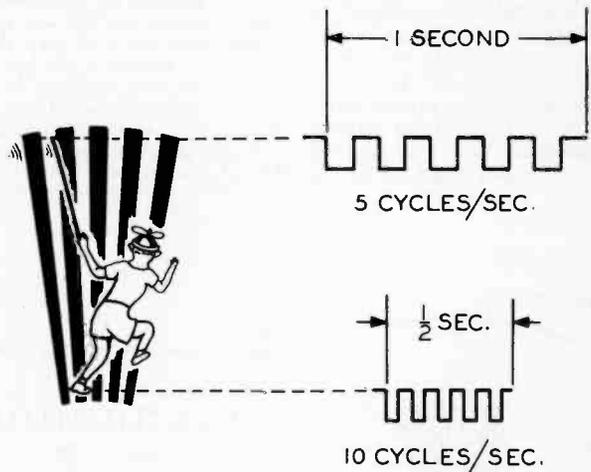
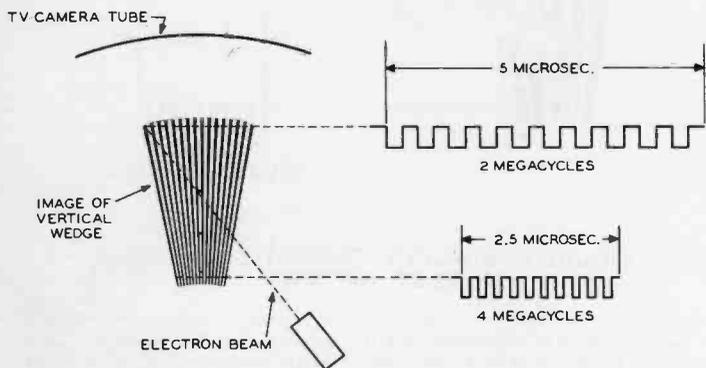

FIGURE 2—ANALOGY TO VERTICAL WEDGE IN TEST PATTERN
FIGURE 3—VERTICAL WEDGE IS USED IN PROVIDING SQUARE-WAVE VIDEO SIGNALS OF A WIDE FREQUENCY RANGE.
Two methods of connections are shown in Figs. 2 and 3, the former being that employed with receivers with a balanced input and the latter with unbalanced-input sets. It goes without saying that in order for the signal to be a maximum at the receiver input, the impedance match between the antenna, the lead, and the input should be as nearly perfect as possible. In Fig. 2 (A), a folded dipole is indicated (this has a 300-ohm impedance) and it is connected to the resistors and switches by a twin lead with the same impedance. In Fig. 3 (A) a half-wave dipole is indicated, this having an impedance of 75 ohms and a coaxial line of the same impedance being employed.
You will note that in Fig. 2 there are two double pole-double throw switches connected in parallel through series resistors to the twin-lead line from the antenna. The number of receivers connected to the antenna determine the value of these series resistors; for two receivers, the value is 150 ohms; for three receivers, 300 ohms; and for four receivers, 450 ohms. It is important to use carbon and not wire-wound resistors, as the latter may unbalance the system. Of course, the dummy load in each case remains 300 ohms, thus matching the input of the set and providing a balance in the event the set is removed from the system.
The equivalent circuits of each of these methods of connection are shown in Figs. 2 and 3 (B). In the former, the two 150-ohm resistors in series with the 300 ohms of either the set input or the dummy load, give two parallel circuits of 600 ohms each. Hence, the impedance of the combination is 300 ohms, providing the proper match for the twin-lead line. In the event that three sets are connected to the same folded dipole, the 150-ohm series resistors are changed to 300 ohms each, making each parallel branch circuit 900 ohms. The total resistance of three 900-ohm circuits in parallel is again 300 ohms, providing the required impedance match for the line.
The same reasoning can be applied to Fig. 3 (B). Here but one resistor is needed in series with the 75-ohm unbalanced input of the receiver to provide the impedance match. The total resistance of each series circuit is 225 ohms and the total resistance of the three parallel circuits is 75 ohms. If four 75-ohm receivers are to be connected to the one dipole, the series resistances are changed from 150 to 225 ohms, the total resistance of each series circuit being 300 ohms. Therefore, the total resistance of four 300-ohm parallel circuits would again be 75 ohms, giving the correct match.
Figures 2 and 3.
Suppose the boy had a V-shaped trellis with 5 pickets, as shown in Figure 2. As he draws the stick across the pickets, the motion at the
In an analogous manner, as shown in Figure 3, the camera tube at the TV transmitter produces an electrical square-wave signal as the electron beam in the camera tube is drawn across the image of the vertical wedge. But in this case the frequency is very high because the beam crosses the wedge in a few millionths of a second.
Fig. 2. (Left) Instant channel selection is a feature of this television sweep generator. (Center) Television calibrator for the precision alignment of wideband amplifiers. (Right) The vacuum tube voltmeter is practically a universal test instrument applicable to all types of radio and electronic servicing.
Fig. 3. (Left) The oscilloscope is a useful tool in visual alignment procedures and for observing waveforms. (Center) The r.f. test oscillator is a basic AM servicing instrument. (Right) The audio oscillator is valuable in the service shop and may be used to locate performance difficulties in video amplifiers.